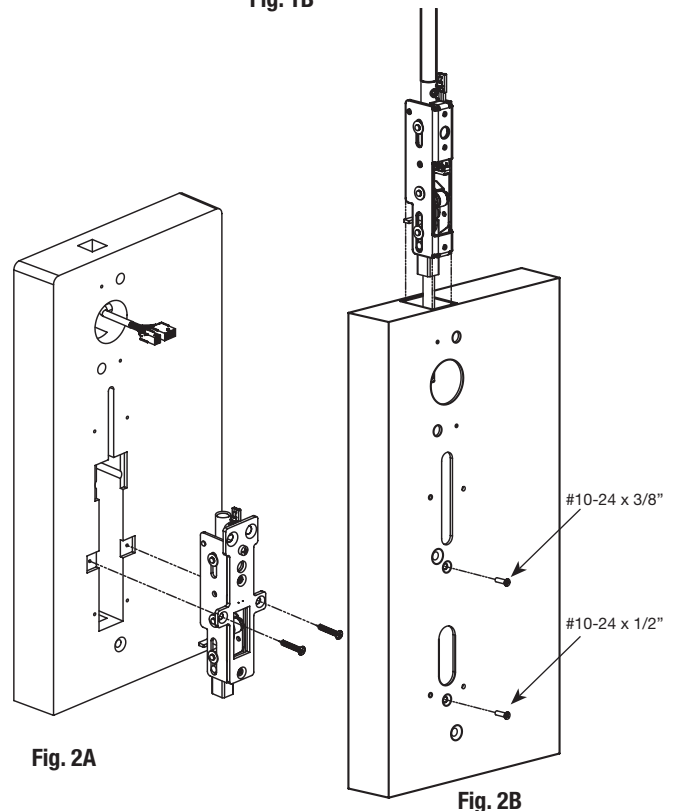

Fig. 2A
Install the inner case assembly with (2) #12 x 1" Phillips flathead screw (Fig. 2A).